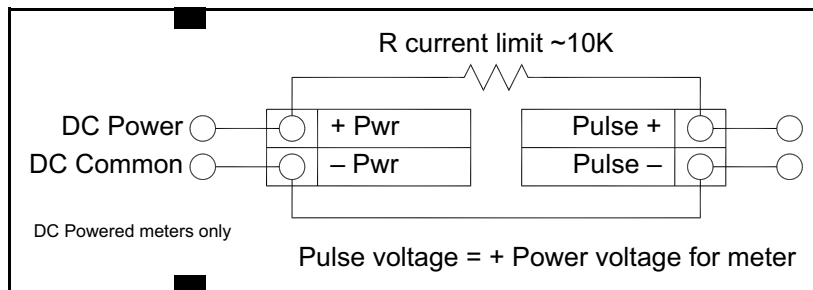

Figure 43: Non-Isolated Pulse Output Using Input Power Supply
- For DC powered meters only, use the flow meter power supply (see Figure 43 on page 44). Use this option if the voltage at the flow meter power supply is an acceptable driver voltage for the connected load, taking into account that the current used by the pulse load comes from the meter's power supply.